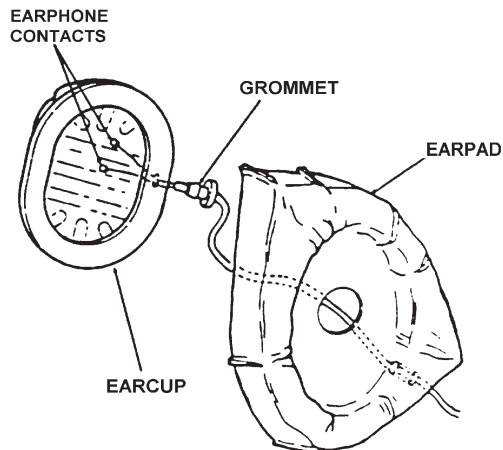

Figure 3-2. Earphone Contacts and Small Grommets Inserted into Earcups
4. Insert the earphone contacts and small grommets into the holes of the left-hand and right-hand earcups as shown in Figure 3-2. Secure the grommets.